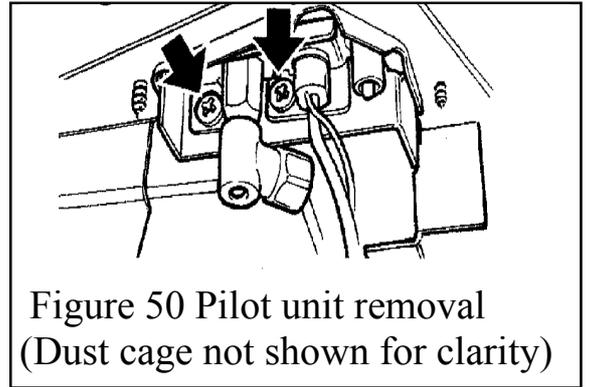

Figure 50 Pilot unit removal
5. Remove the first screw securing the dust cage to the pilot unit & burner. Carefully remove the dust cage and place aside. See figure 50.
6. Remove the second screw securing the pilot unit to the burner. Remove the pilot unit and place it aside. See figure 50.